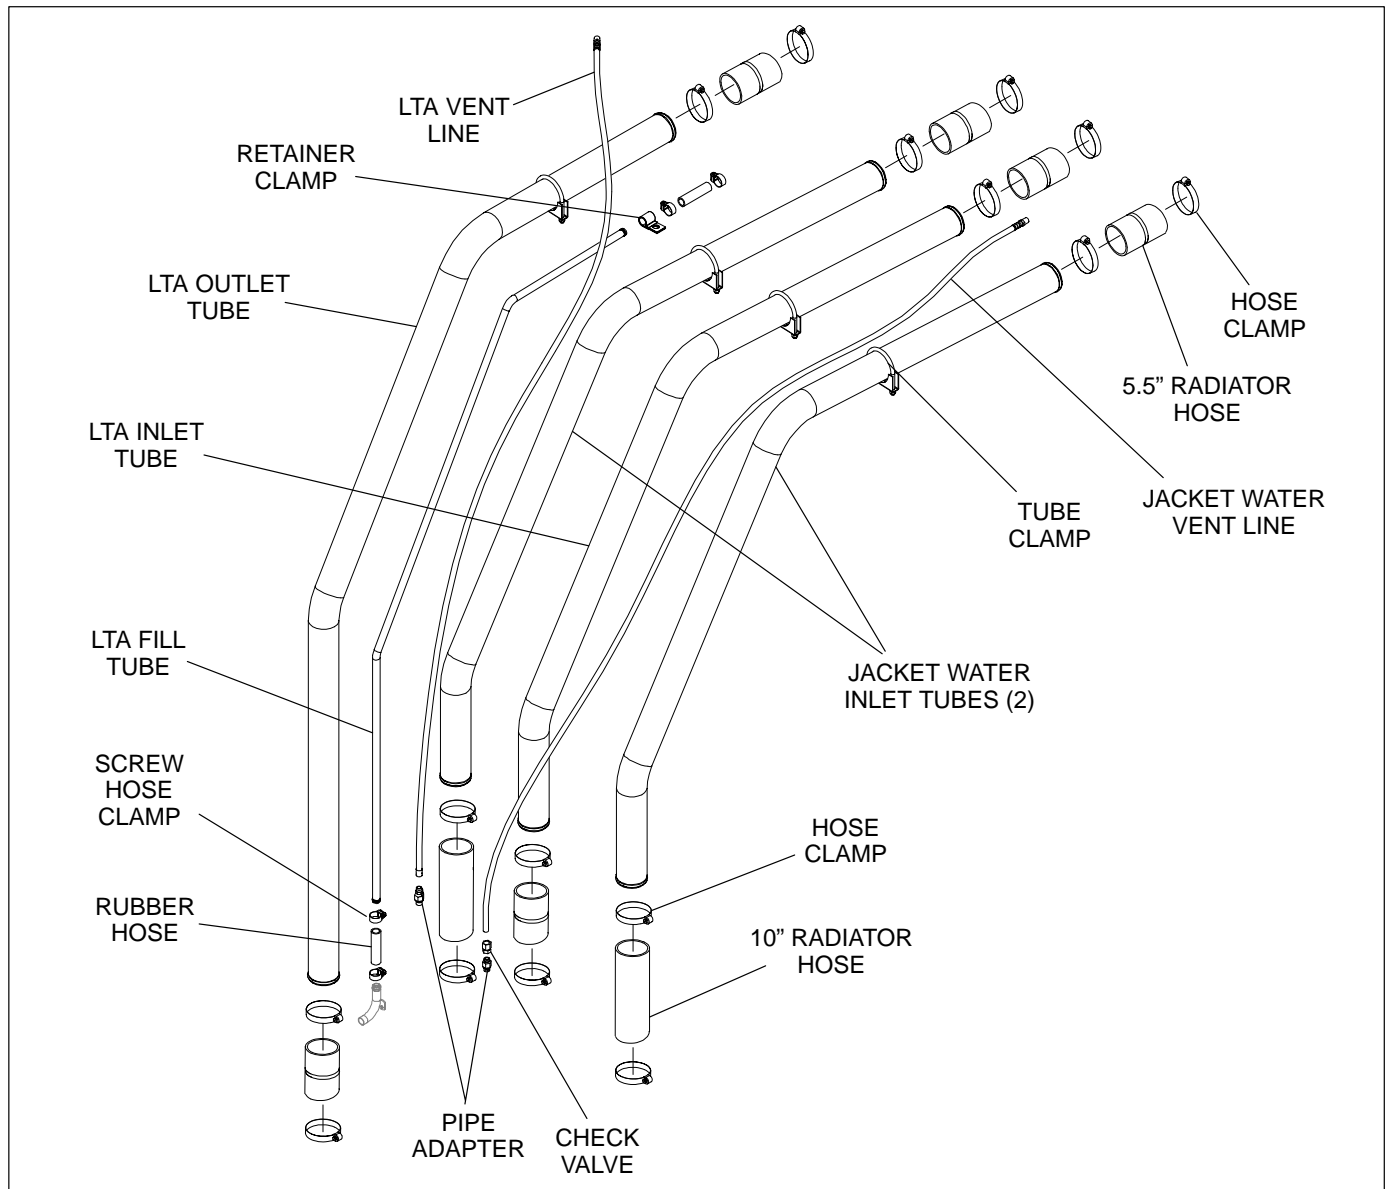

FIGURE 9-5. RADIATOR TUBES
1. Slide radiator hose all the way on both ends of each tube. Use a lubricant such as WD40. Some tubes require 5.5 inch hose and some require 10 inch hose. See Figure 9-5.
7. Connect the vent pipes. Be sure to install the check valve as shown in Figure 9-5.